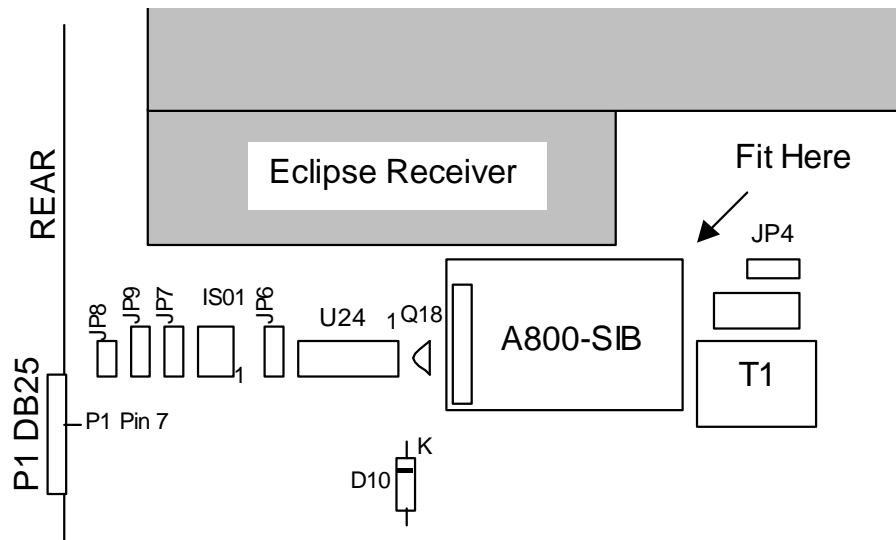

Figure 1
The A800-SIB board should be mounted with the supplied double sided tape, and fixed to the space between the transistor Q18 and the 600 Ohm transformer T1. Refer to Figure 1, 2, and 3.
4. Wire the A800-SIB as per Table 2 or 2a. Also refer to Figure 1, 2, and 3. The location of some of the connection points is shown in Figure 1. At the rear of the receiver, pin 7 of P1 25 Way D Range should be cut and bent upwards. The GATE OUT White wire from the A800-SIB wires directly to pin 7 of P1. Place silicon tubing over the solder joint. Place cable ties around the wires to keep them tidy. The unused wires on the A800-SIB wiring loom can be removed from the board connector. Keep the removed wires in case they are required at a later date.
In the Eclipse Base station, set the following jumper links. All jumpers are marked on the PCB top overlays. Some can also be seen on Figure 1.